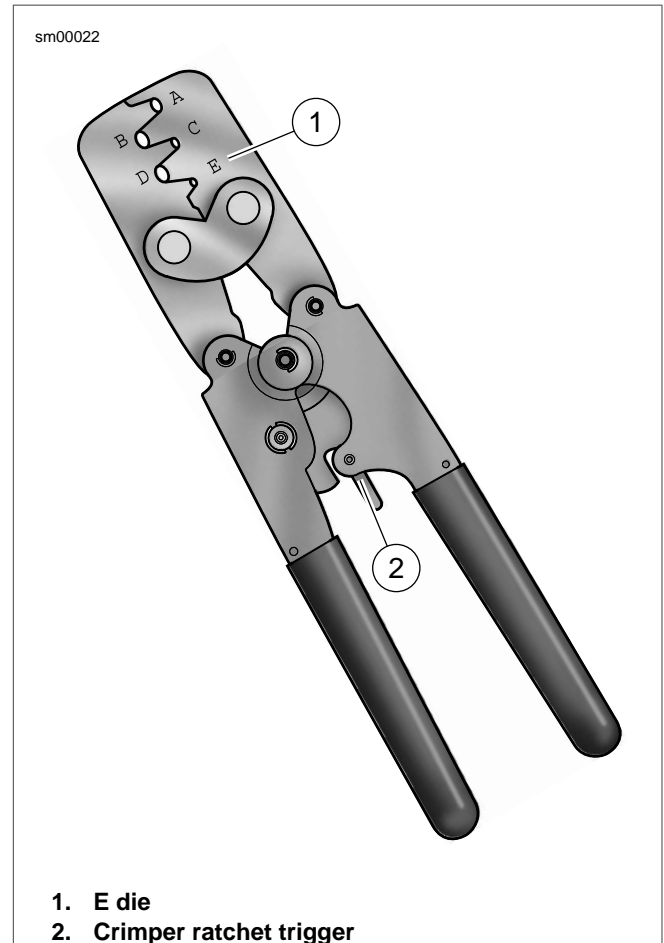

Figure A-36. Packard Terminal Crimper (HD-38125-7)
1. See Figure A-36. Compress the handles of PACKARD TERMINAL CRIMPER (Part No. HD-38125-7) until the ratchet (2) automatically opens.